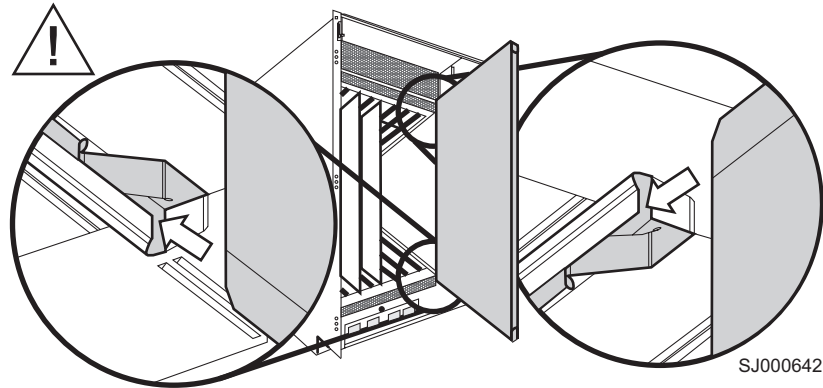

Figure 35. Alignment guides in the card slots
2. Align the flat side of the 16–port card or filler panel inside the upper rail guides and the lower rail guides in the slot. See Figure 35 on page 63. Slide the 16–port card or filler panel into the slot, with slight pressure to the left, until it is firmly seated.
Figure 35 on page 63 shows the alignment guides in the card slots.